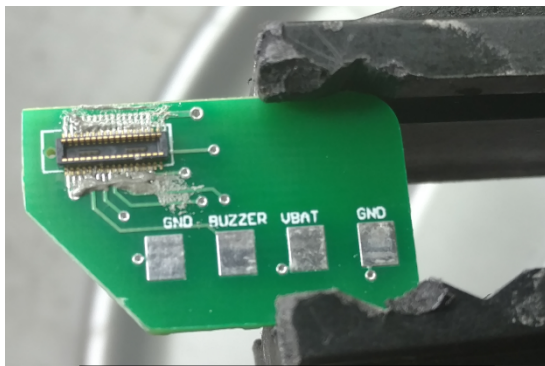

Fig 5, Solder pasted connector
- II. Place solder paste on top and bottom rows of pads(Fig 5)